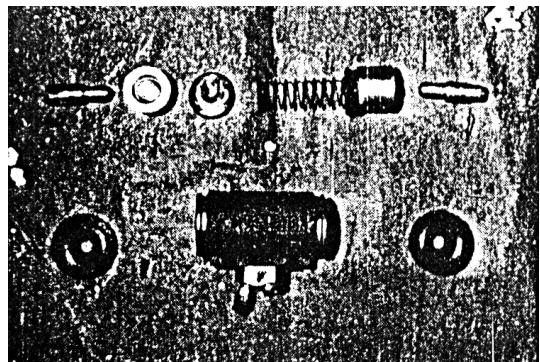

Fig. 8-15
(7) Remove the operating cylinder boot and push all parts out of the cylinder. (See Fig.8-15)